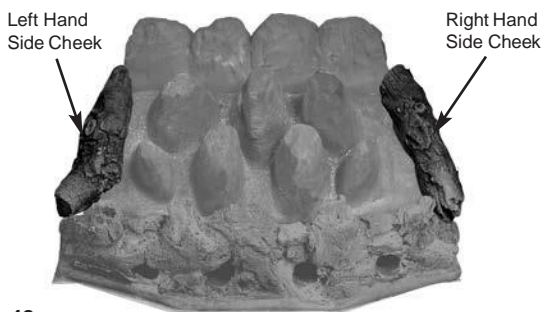

Fig. 40
4. Place the side cheeks into position, making sure they are positioned either side of the fuel bed and the overhang is at the front. The outside edge should be in contact with the radiant box ceramic liner. Ensure that the lower part of the side cheeks sit on the front log set and are in front of the rear log set (Fig. 40).